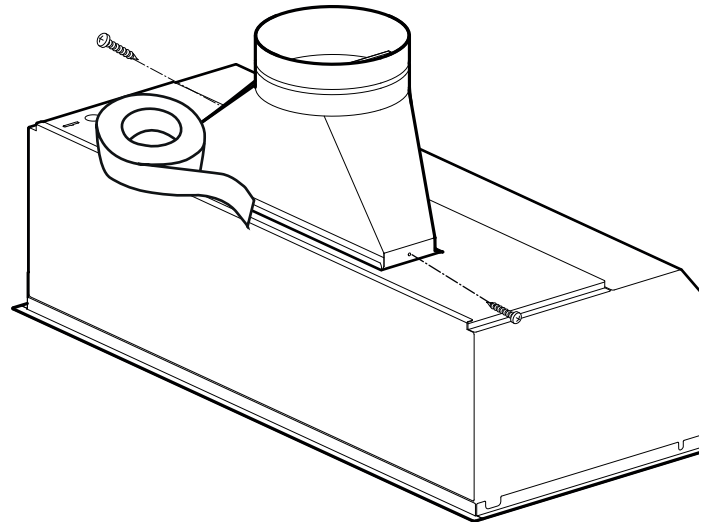

Figure 5: Transition Connection
3. Align mounting holes at base of transition with the mounting holes of the $\frac{1}{2}$ " (13 mm) flange located at the top or rear of the hood (Figure 5).
4. Fasten transition to hood using two (2) 1" (25.4 mm) sheet metal screws included with hood (Figure 5).
5. Seal connection between transition and hood with aluminum tape. **DO NOT** use duct tape (Figure 5).